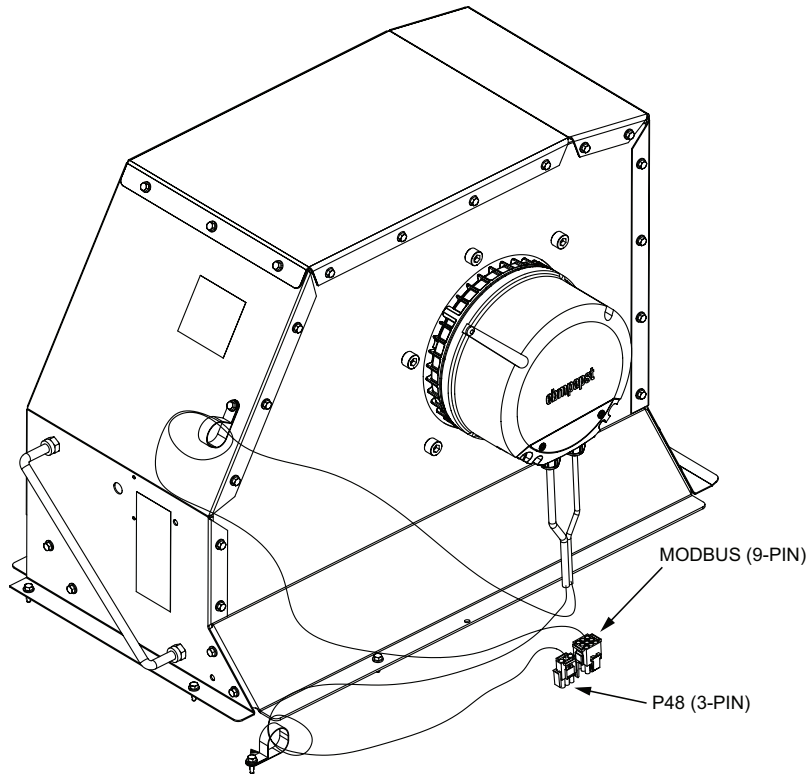

FIGURE 5
- 23 -Uncoil P48 power harness and Modbus control harnesses secured to replacement blower assembly. See FIGURE 5.